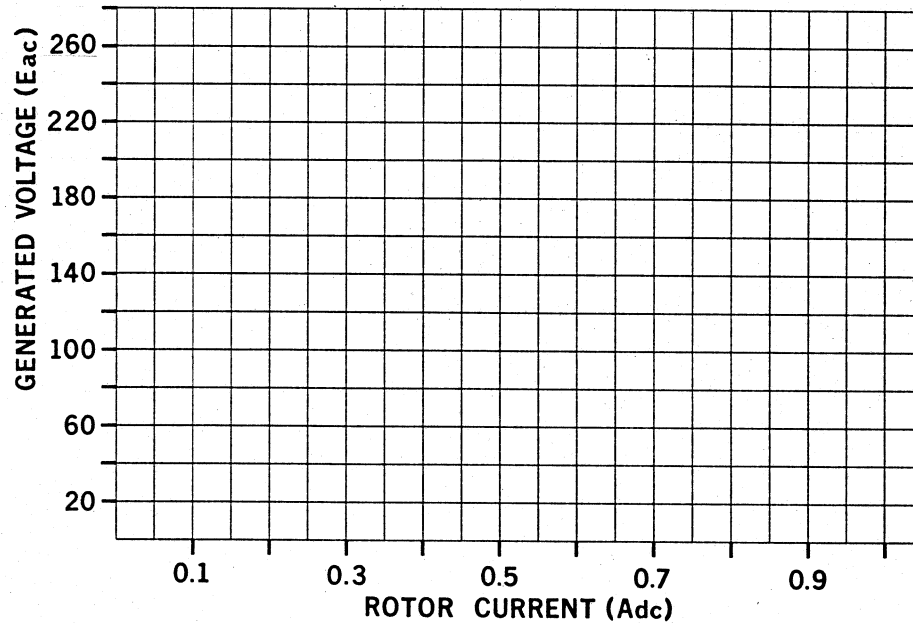

Figure 10-3.
1. a) Plot your recorded average voltage values vs DC current values from Table 10-1 on the graph of Figure 10-3.